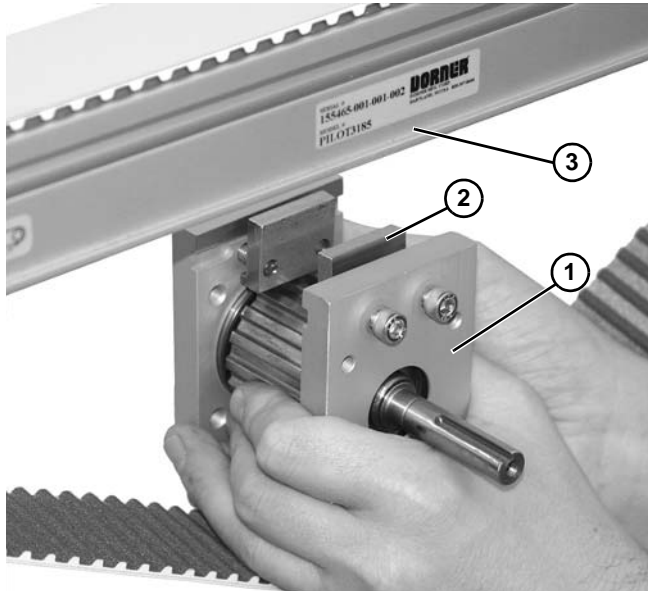

Figure 72
7. Raise center spindle assembly (**Figure 72, item 1**) tracking clamp block (**Figure 72, item 2**) onto conveyor channel (**Figure 72, item 3**) on each side of conveyor frame.